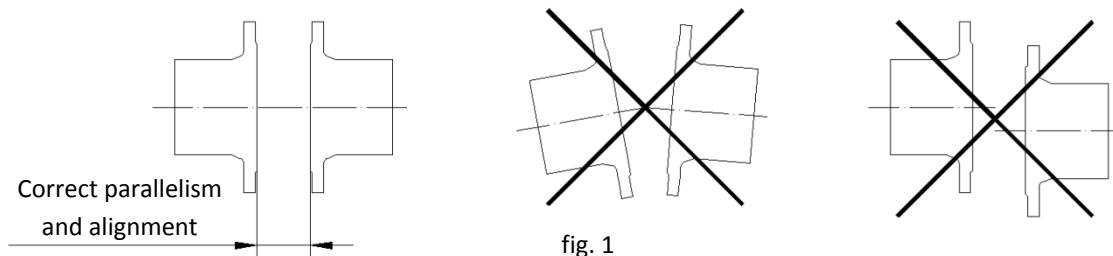

fig. 1
- Special care must be taken to respect the correct distance (gap) between the flanges and ensure they are correctly aligned and parallel (fig. 1).